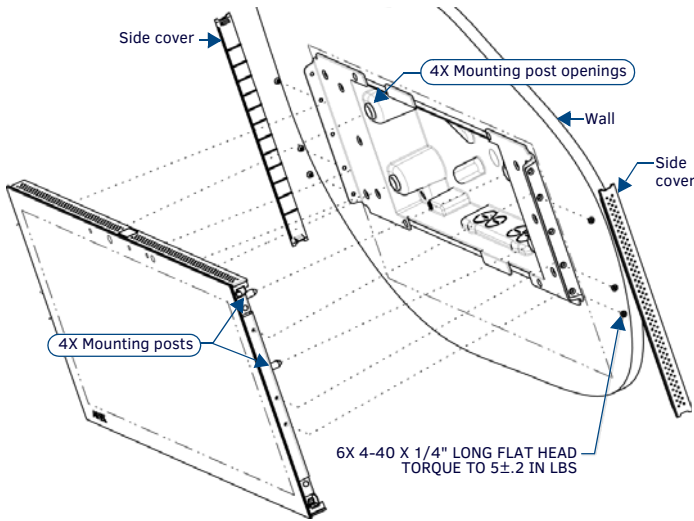

FIG. 5 MXD-2000XL-PAN INSTALLATION (LANDSCAPE)
- Insert the four temporary mounting posts of the panel into the openings on the Backbox and slide the panel onto the Backbox. This will temporarily hold the panel during the rest of the installation (FIG. 5).
- Use the six provided screws, three at each end, to secure the touch panel to the Backbox (FIG. 5). Use only the provided screws, as other screws may damage the touch panel.